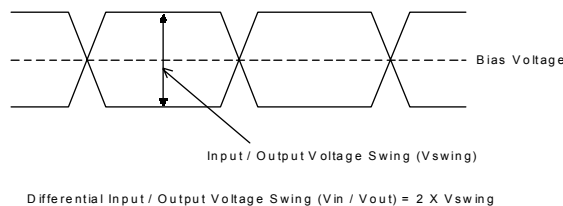

Figure 7. Definition of Differential Input / Output Voltage Swing
- Refer to Figure 7.
Refer to Figure7. about definition of differential swing.